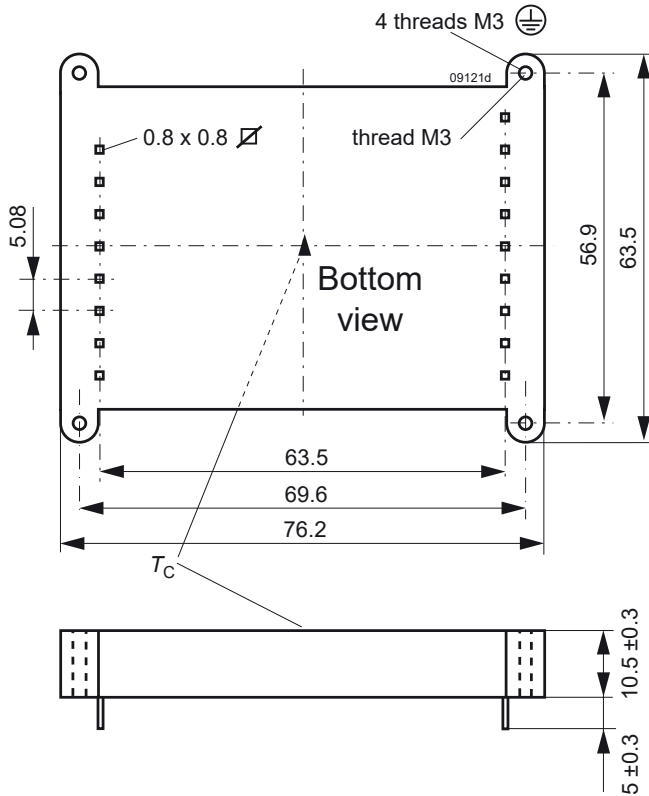

Fig. 15
- 7 Corresponds to EN 50121-3-2:2016 table 3.3, external components required; see fig. 15